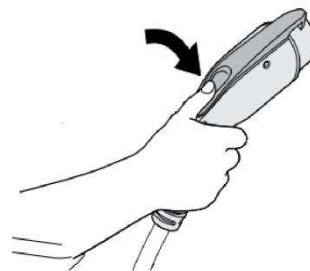

Fig.6-7 Pick off the charging connector
- b) Pick off the charging adapter and is shown as Fig. 6-7.